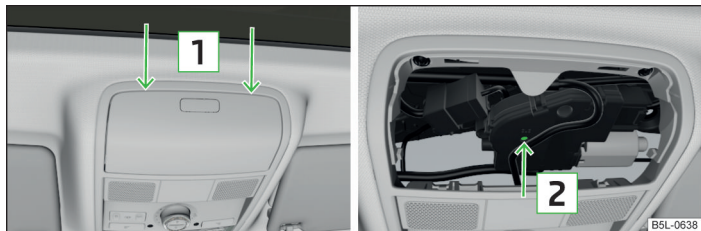

Fig. 190 Point for positioning screwdriver/opening for positioning the key
- Carefully insert an approximately 5 mm wide screwdriver into the slot in the positions shown by the arrows **1** » Fig. 190.